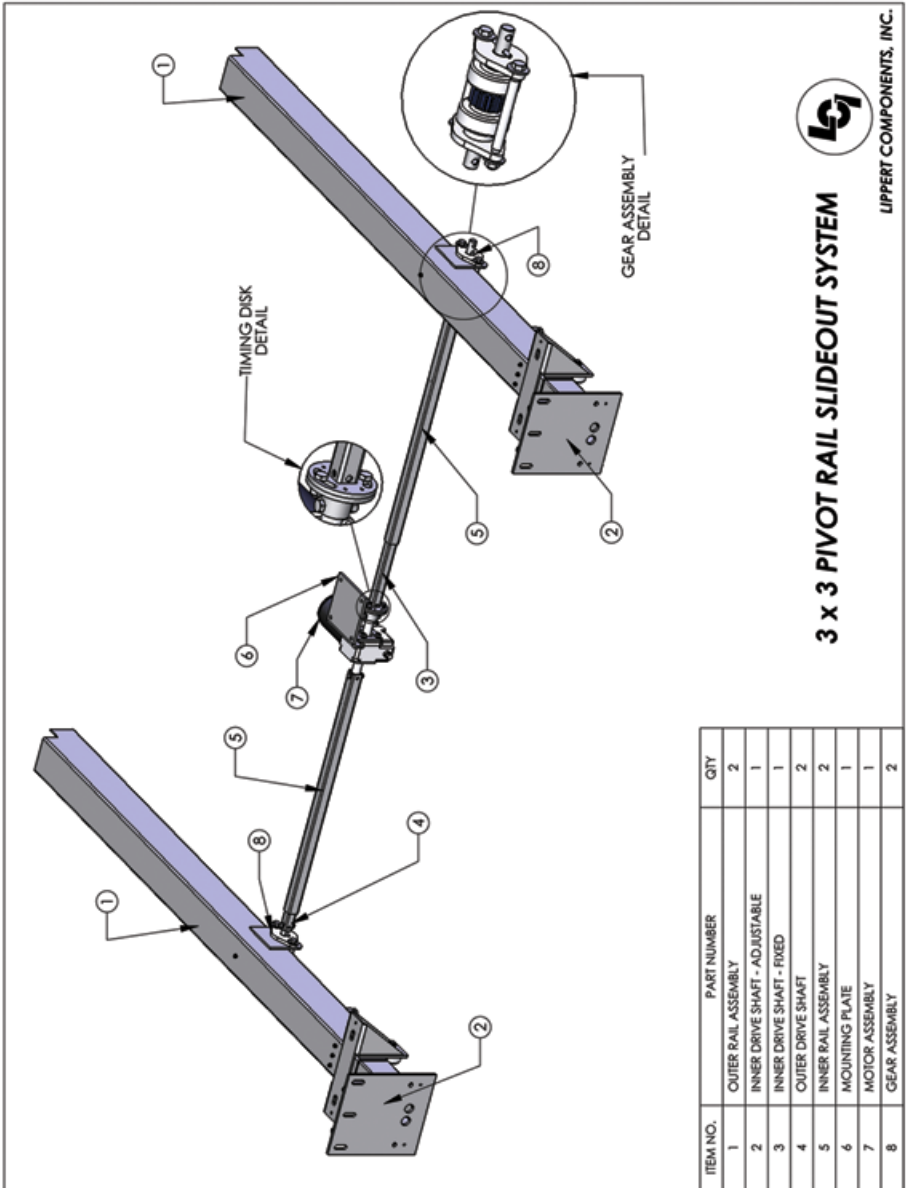

Fig. 1
PIVOT RAIL– see Fig. 1 page 5
- When the room is out, visually inspect the Inner and Outer Rail Assemblies. Refer to Fig. 1 for location of inner rail assemblies. Check for excess build-up of dirt or other foreign material; remove any debris that may be present.